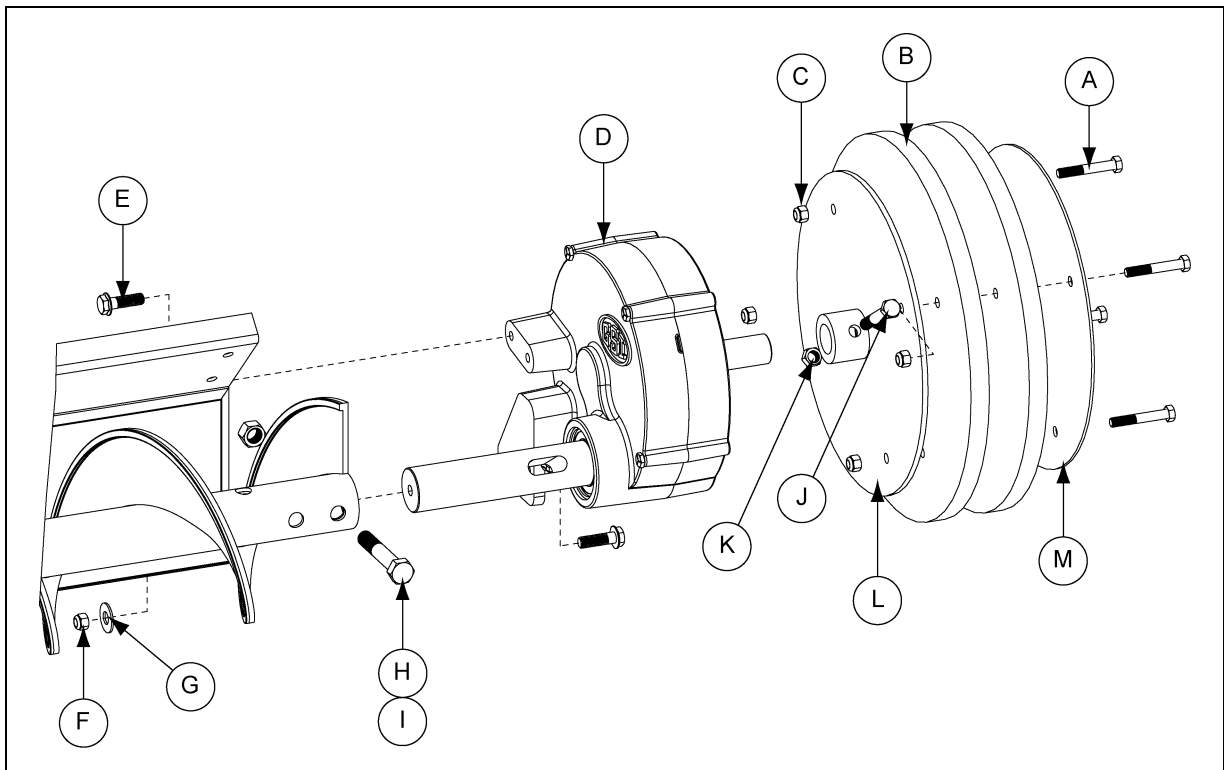

Figure 4AG
2. Mount the reducer to the back shield with two (2) 3/8" x 1-1/4" serrated flange bolts, one flat washer and nylock nut.
4. Attach the rubber discs and outer wheel disc to the wheel hub welded assembly with four (4) 5/16" x 2" grade 2 bolts and nylock nuts. (See Figure 4AG.)